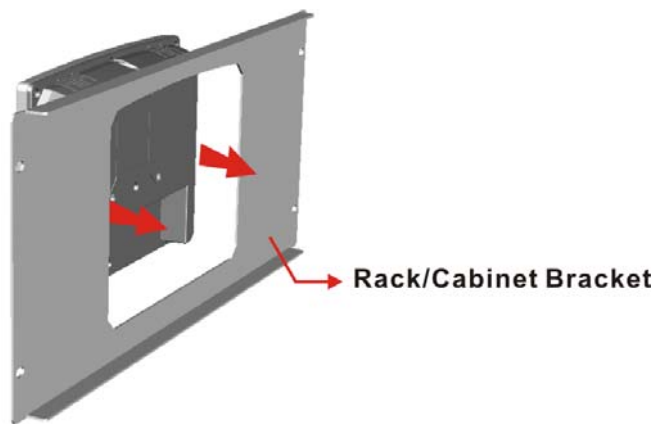

Figure 4-23: The Rack/Cabinet Bracket
Step 1: Slide the rear of the PPC-5xxx-9455 panel PC through the rack/cabinet bracket until the aluminum frame is flush against the front of the bracket (**Figure 4-23**).